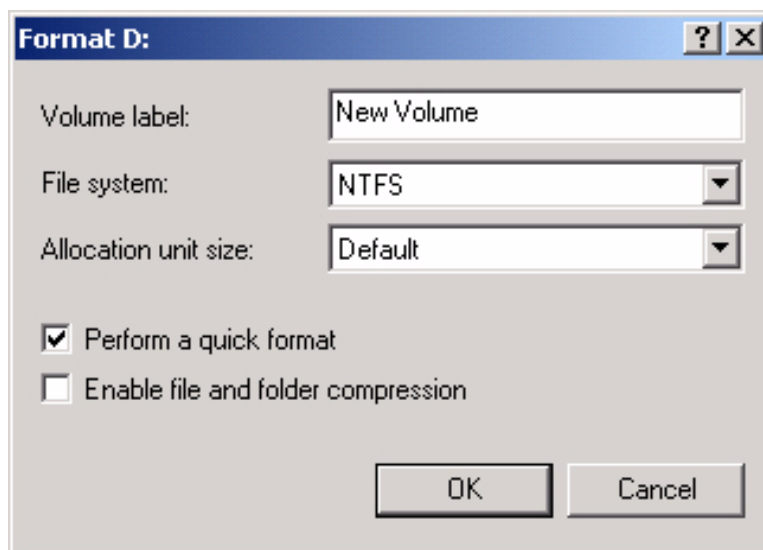

FIGURE 6-38. Format D: Screen.
16. The *Format D:* screen appears. At “Volume label:” give the volume a name. Make sure that the “Perform a quick format” checkbox is checked. Click **OK**. See Figure 6-38.